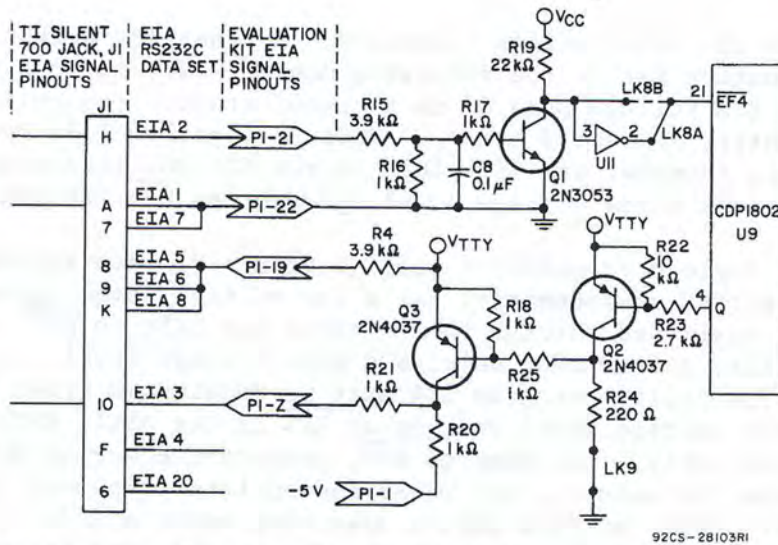

Fig. 4 - The EIA RS232C serial data interface for connecting TI Silent 700 data terminal to Evaluation Kit CDP18S020.
To configure the Evaluation Kit for the EIA RS232C interface, after the assembly instructions and check-out procedure given in the Evaluation Kit Manual for the CDP1802 Microprocessor, MPM-203, are followed, the user should make sure that links LK8A and LK9 are inserted and LK8B is left open. The bit serial EIA RS232C interface can be connected to the data terminal as shown in Fig. 4 and Table IV. Because of the simplicity of the Evaluation Kit interface, only a subset of the EIA signals listed in Table IV need be used. The signals EIA 1 and EIA 7 can both be tied to ground (P1-22 as shown in Fig. 4). The signals EIA 4 and EIA 20 supplied by the data terminal are ignored by the Evaluation Kit because Utility Program UT4 coordinates the data transfer. No connections to the Evaluation Kit, therefore, are necessary for these two signals. The signals EIA 5, EIA 6, and EIA 8 must all be permanently tied to a high voltage level ( $V_{TTY}$ ), P1-19 as shown in Fig. 4. These acknowledgement signals must be supplied to the data terminal if the data terminal possesses them as part of its EIA RS232C interface. However, no special manipulation of these signals is required because Utility Program UT4 will coordinate the transfer of all data. The remaining signals are the data-carrying signals of the interface. They merely need to be connected as follows: EIA 2 connects to P1-21 and EIA 3 connects to P1-Z, as shown in Fig. 4.
The Evaluation Kit Utility Program UT4 is designed to provide the appropriate ASCII-coded serial data to the data terminal by toggling the Q output of the CDP1802 microprocessor between  $V_{CC}$  and  $V_{SS}$  at the appropriate times. Again, the interface must convert the Evaluation Kit voltage levels to the EIA RS232C voltage levels used by the data terminal. This conversion is performed as follows. The logic 1 or negative EIA voltage is supplied to the data terminal when the CDP1802 output is toggled to a low voltage level ( $V_{SS}$ ). The Q output going low drives the transistor Q2 into saturation. This action drives the base of Q3 to a high voltage level ( $V_{TTY}$ ) putting Q3 into a cutoff state. As a result, no current flows through the collector of Q3, and EIA 3 is supplied with a negative voltage level (- 5 volts) as shown in Fig. 4.
3. Connect the EIA RS232C interface signals from the data terminal to the Evaluation Kit as shown in Fig. 4. Verify these connections with the list in Table IV. Refer to Fig. 3 for Evaluation Kit connector pin placement.